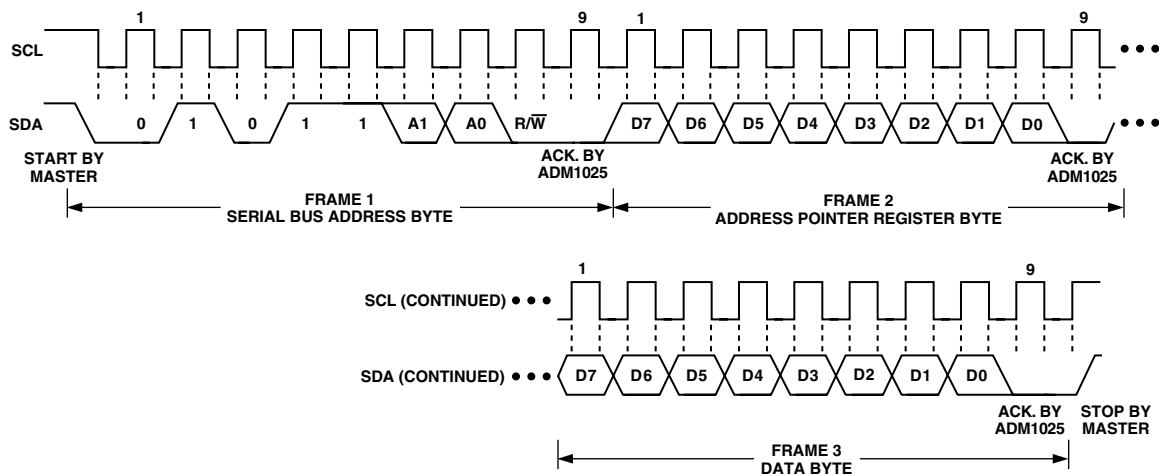

Figure 9a. Writing a Register Address to the Address Pointer Register, then Writing Data to the Selected Register
This is illustrated in Figure 9a. The device address is sent over the bus followed by $\text{R}/\overline{\text{W}}$ set to 0. This is followed by two data bytes. The first data byte is the address of the internal data register to be written to, which is stored in the Address Pointer Register. The second data byte is the data to be written to the internal data register.
2. In Figures 9a to 9c, the serial bus address is shown as the default value 01011(A1)(A0), where A1 and A0 are set by the three-state ADD pin.